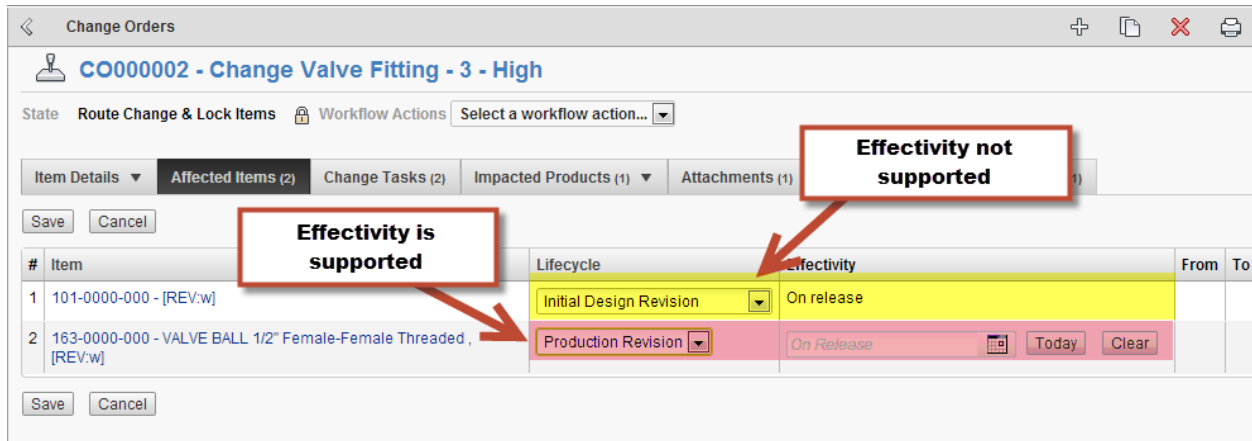

Figure 6 - Change Order screen with and without effectivity support
- Name – this is the visible name for this transition that you see in the Change Order dialog as in 'Figure 6 - Change Order screen with and without effectivity support'